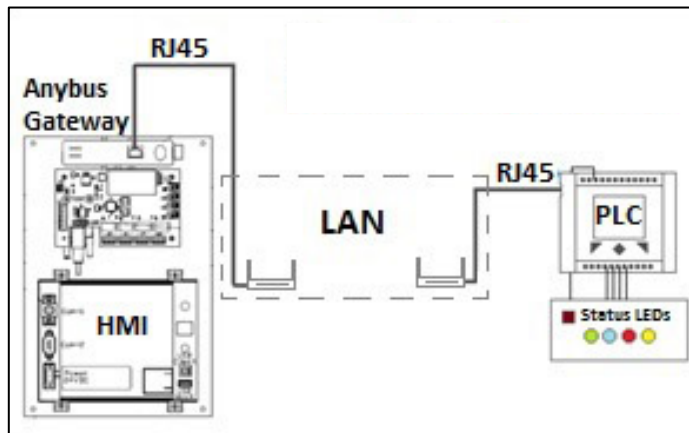
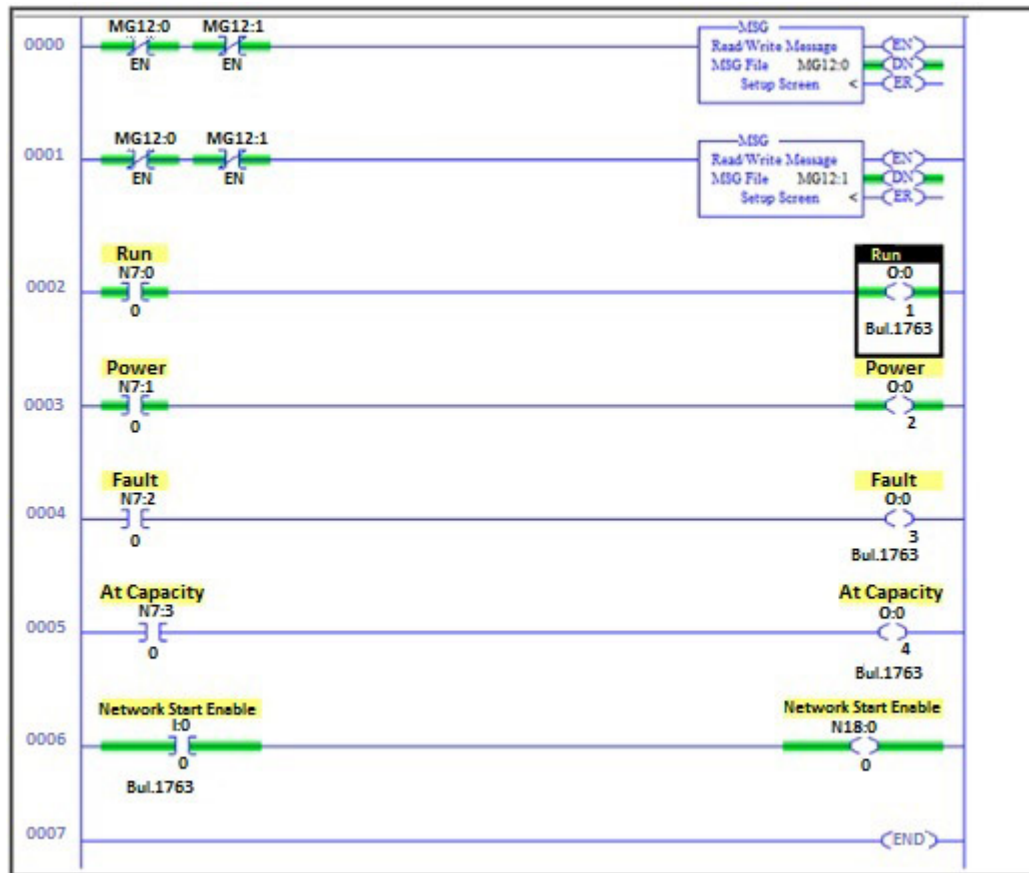

Figure 63: Anybus Gateway Network Setup with PLC Example
Figure 64: Ladder Logic Diagram
- The Message Structure settings are shown in Figure 63 (write command) and Figure 64 (read command).